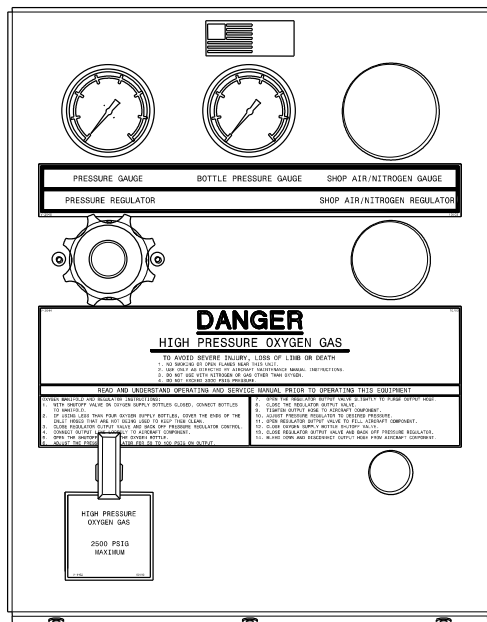

FIGURE 1
1. Install bottle and outlet hose assemblies to manifold as shown in Figure 1. Tighten bottle hoses 2 to 2½ turns after finger tight is reached. Ensure outlet hose is tight.